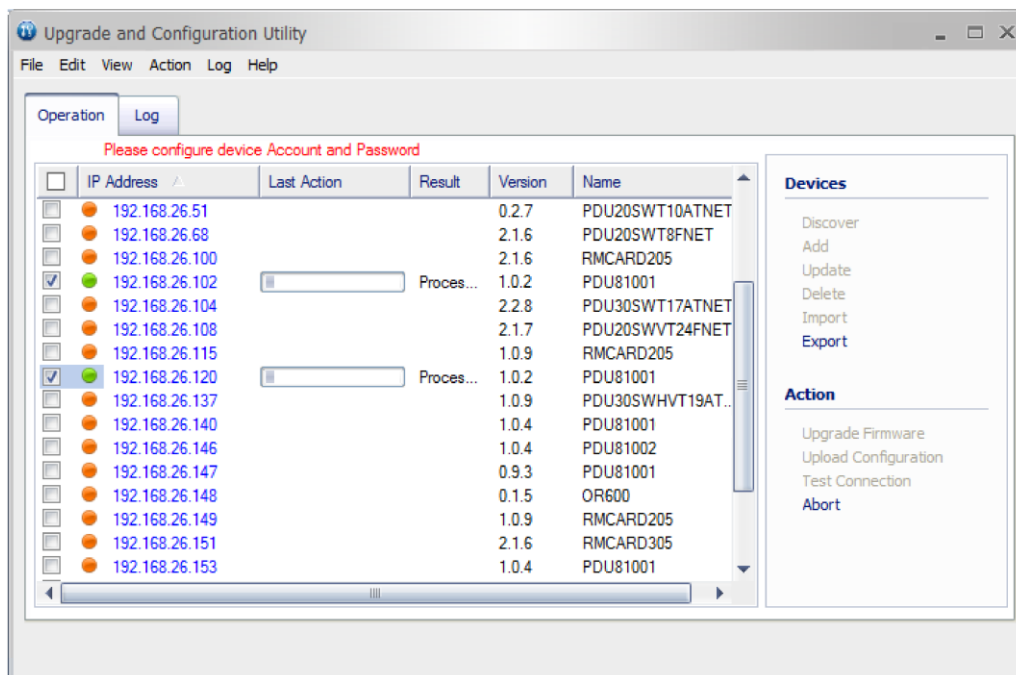

Figure 6.
9. The upgrade progress bar will show in Last Action column (Shown in Figure 6).